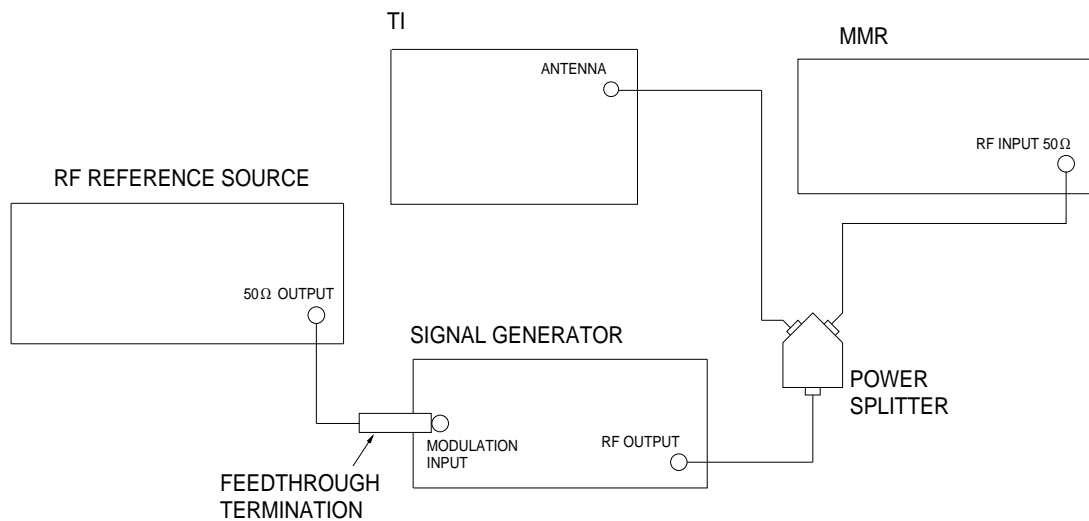

Figure 4.
4.5.1 Connect equipment as shown in Figure 4. Press Tx TEST, press SELECT and select the ANTENNA input.